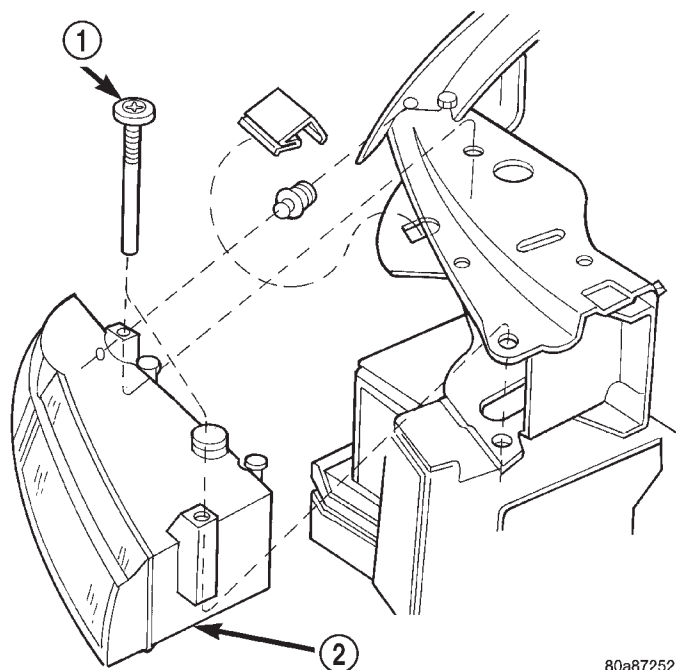

Fig. 1 Headlamp Module Retaining Screws
- (1) Release hood latch and open hood.
- (2) Remove headlamp module retaining screws (Fig. 1).